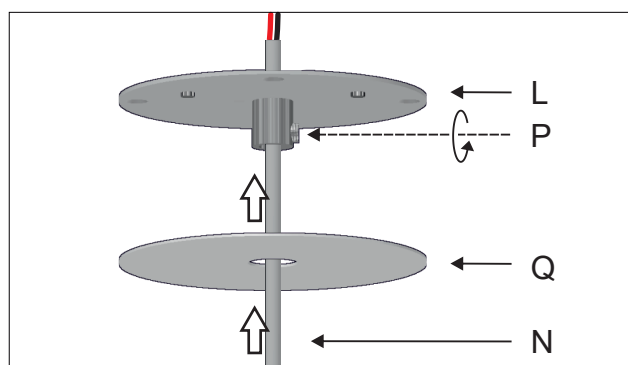

Figure 11
Run the main cable (N) through the metal base (Q) and the mounting bracket (L) and lock it in place with the cable holder (P). Figure 11.